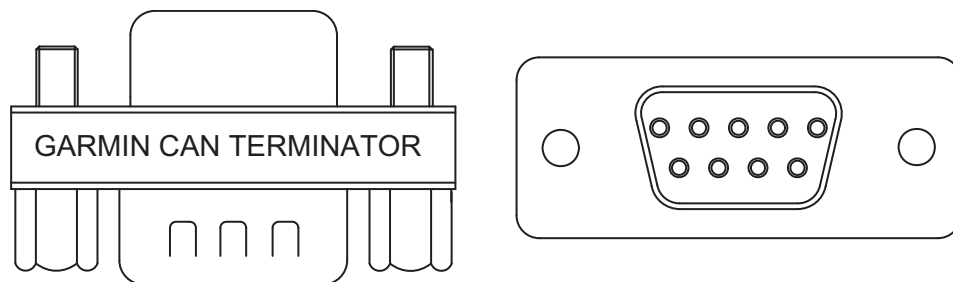

Figure 2-10 CAN Bus Termination (011-02887-00) for GAD 29, GEA 24, GMA 245, GMU 11, GPS 20A, GSU 25, and G5
- The GAD 29, GEA 24, GMU 11, GPS 20A, GSU 25, and G5 installation kits provide a 9-pin termination adapter that provides termination when attached to the device’s main connector. The termination adapter contains a 120 Ω resistor that is connected between pins 1 and 2 (Figure 2-10).